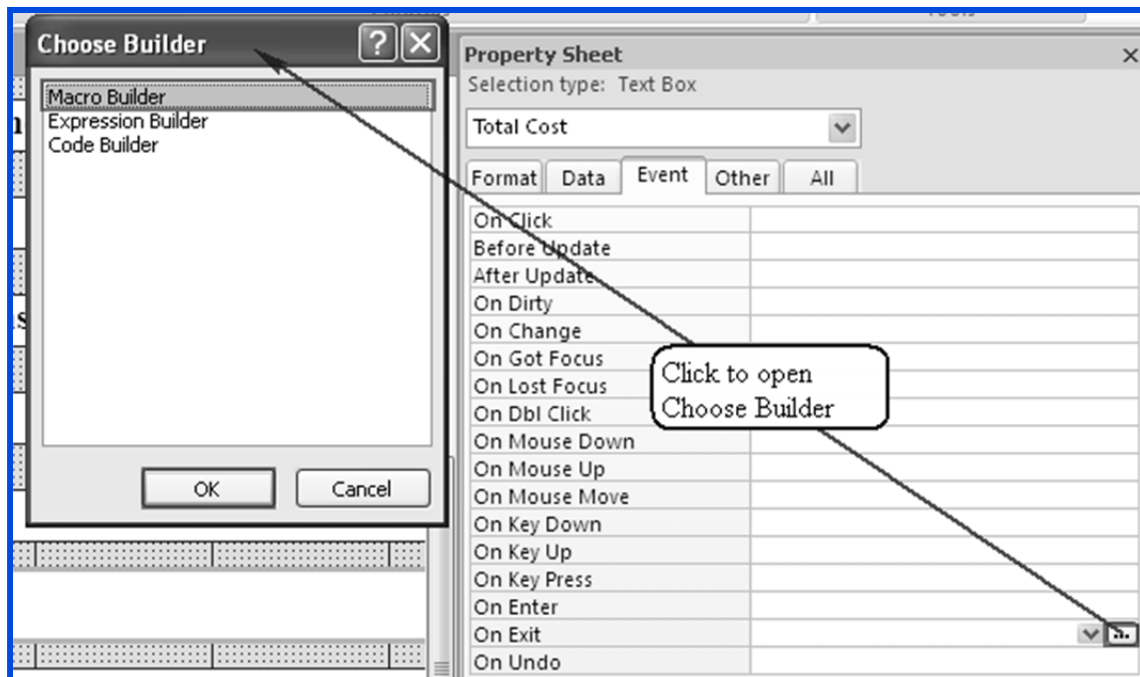

Fig. 4.2.43: Open Macro Builder
5. Select *Macro Builder* from the list in the *Choose Builder* window, as shown in Fig. 4.2.43. Click the *OK* button.